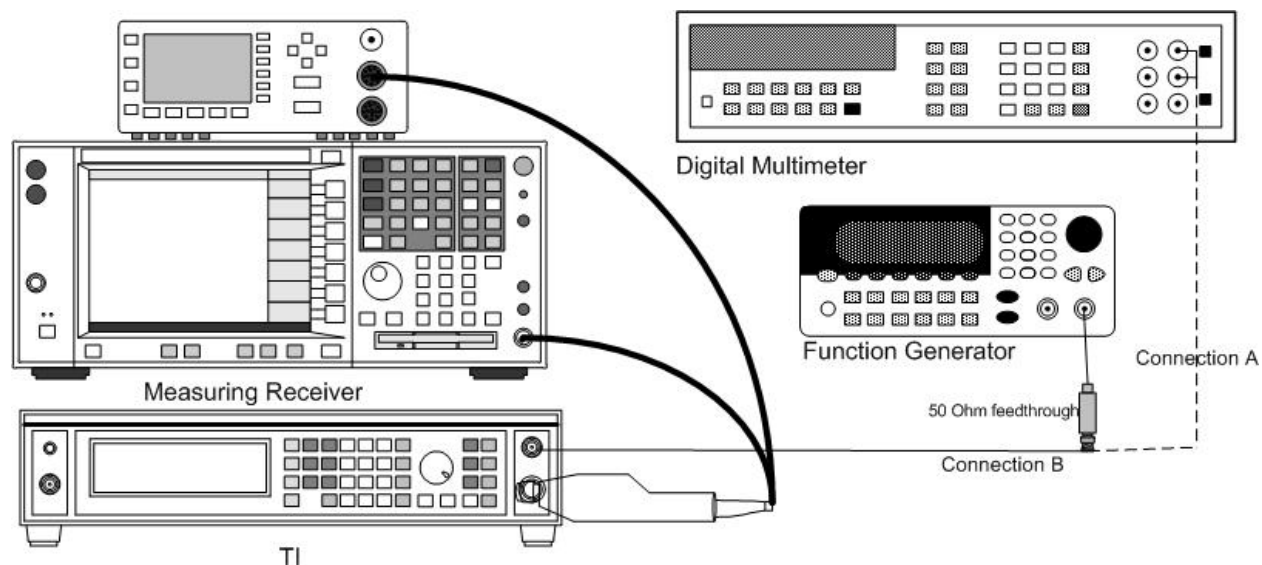

Figure 1. Modulation accuracy hookup.
- (1) Connect equipment as shown in figure 1, Connection A.
- (2) Use multimeter to set the function generator for 1.00 V RMS, 1 kHz sine wave output.
- (3) Connect test equipment as shown in figure 1, Connection B.
- (4) Press TI keys as listed in (a) through (j) below:
(7) Connect test equipment as shown in figure 1, Connection A.
(8) Use multimeter to set the function generator for 0.75 V RMS, 1 kHz sine wave output.
- (9) Connect test equipment as shown in figure 1, Connection B.
- (10) Press the TI keys as listed in (a) through (j) below:
(11) Ensure that the measuring receiver is not in the ratio measurement mode. Measure FM deviation using measuring receiver. Measuring receiver will indicate between 9.5 kHz and 10.5 kHz FM deviation. Establish an FM deviation frequency response reference (0.000 dB) by selecting the ratio mode on the measuring receiver.
(12) Set function generator to remaining frequencies listed in table 6. Measuring receiver will indicate within limits specified in table 6. If indications are not within limits specified in table 6, perform **b** below.
(13) Connect test equipment as shown in figure 1 Connection A.
(14) Use multimeter to set the function generator for 1.25 V RMS, 1 kHz sine wave output and repeat (9), (11) and (12) above using table 7. At frequencies indicated in table 7, measure the AF distortion. If indications are not within limits specified in table 7, perform **b** below.